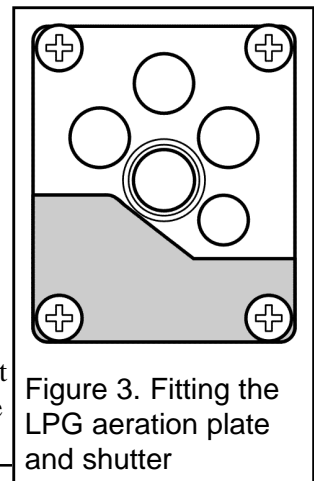

Figure 3. Fitting the LPG aeration plate and shutter
4. A replacement aeration plate and shutter are supplied. Remove these from the pack and locate to the burner using the four screws removed previously (See figure 3).